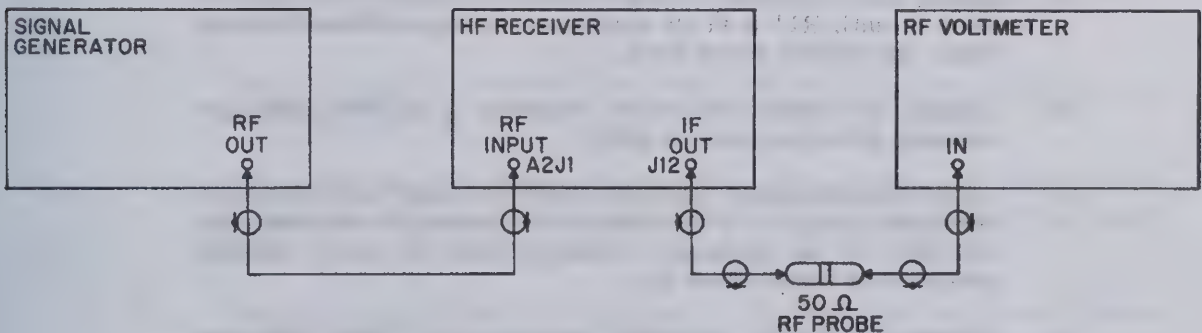

Figure 4-23. 455 kHz Amplifier/AM Detector Gain Adjustment, Test Setup
1. Connect the test equipment as shown in Figure 4-23.